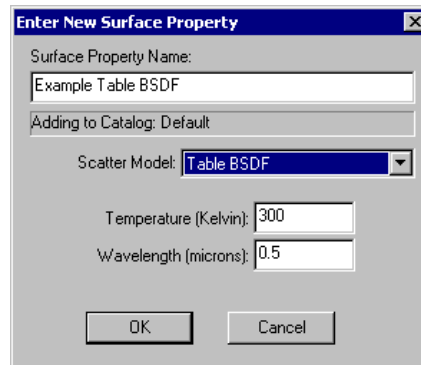

FIGURE 3.16 - Selecting Table BSDF from the Scatter Model list in the Enter New Surface Property dialog box.
3. Click on *Add Property*. When the *Enter New Surface Property* dialog box is displayed as shown in Figure 3.16, select *Table BSDF* from the *Scatter Model* list, enter a name for your new property and values for initial angle and initial wavelength, then click OK.